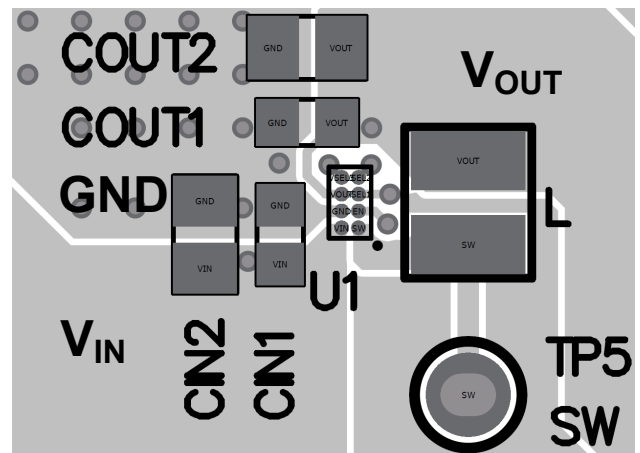

Figure 4. PCB Layout
- ◆ Typical suggested layout is provided in Figure 4.